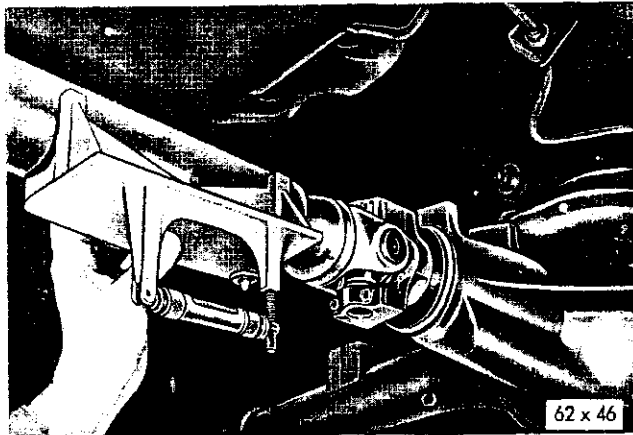

Fig. 4—Checking the Propeller Shaft Angle
(4) Hold the gauge on the underside of the propeller shaft near the rear universal joint (Fig. 4), and check the location of the bubble in the spirit level. The entire bubble should be within three graduations from center.
(5) If the edge of the bubble is forward of the third graduation, the angle of the rear axle housing should be changed. Loosen all "U" bolt nuts and install two-degree tapered wedges between both rear springs and the axle housing pads with the thick
(5) Hold the gauge tool in contact with the propeller shaft, near the rear universal joint (Fig. 4). The entire bubble should be within three graduations from center.
(6) If the edge of the bubble is forward of the third graduation, the angle of the rear axle housing should be changed. Loosen all "U" bolt nuts and in-
(1) Hold the gauge tool in contact with the rear propeller shaft, near the rear universal joint and adjust the gauge to center the bubble (Fig. 4).